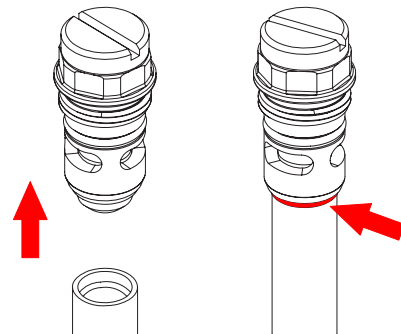

Figure 17 Removing the Tube from the Access Plugs
3. See Figure 17. Pull the old fluidizing tube off the access plug, then seat the new fluidizing tube against the red O-ring.